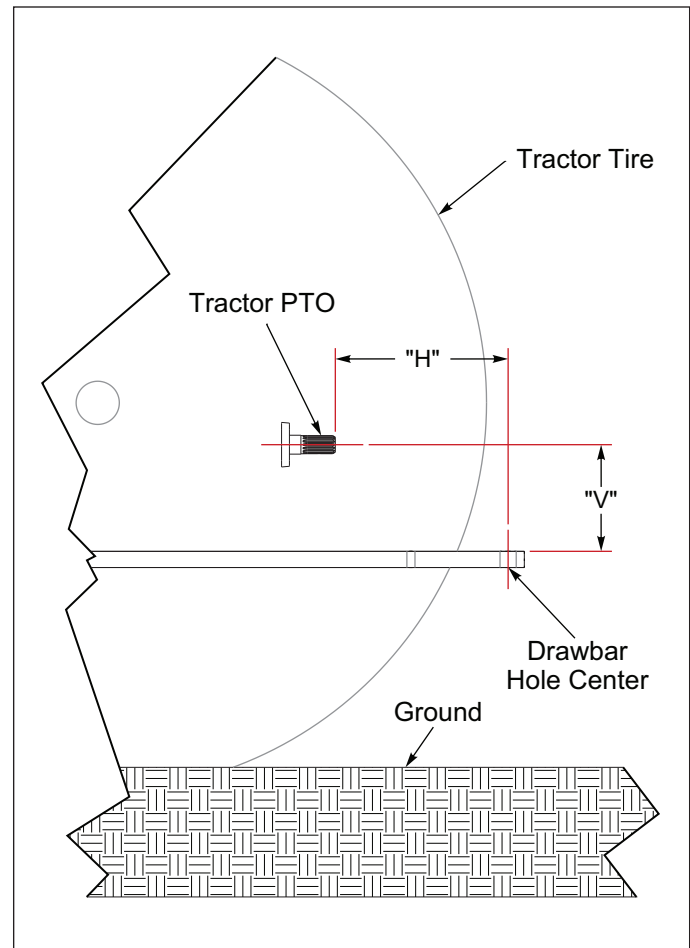

Figure 3-1: Tractor Drawbar Position
4. Vertical "V" distance from top of the tractor drawbar to the tractor PTO Shaft center should be a minimum distance. **See Figure 3-1. See Table 3-1.**